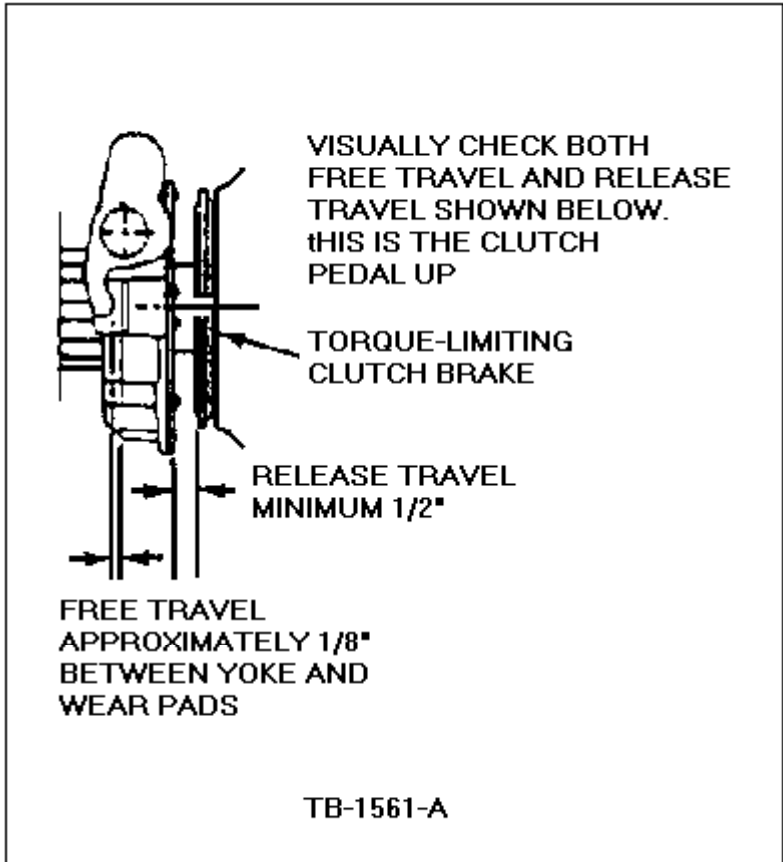

Figure 2 - Article 90-5-17
1. Adjust the clutch internally to get about 1.5" (38.1mm) free play at the top of the stroke or 1/8" (3.2mm) as shown in Figure 2.
3. Check the distance from the clutch release bearing to the clutch brake, Figure 2. There must be 1/2" (12.7mm) movement of the release bearing for proper clutch release. Adjust the clutch internally to obtain this.